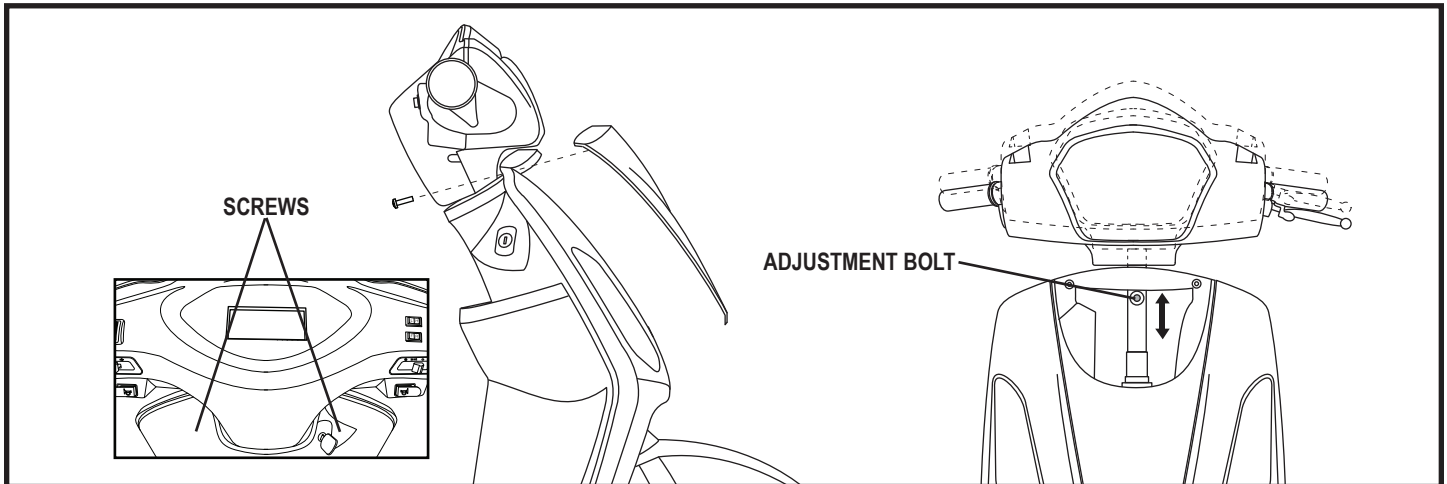

Figure 15. Tiller Height Adjustment
1. Remove the two screws located on the tiller. **See figure 15.**
2. Remove the front shroud. Raise the rubber boot and locate the adjustment bolt. **See figure 15.**